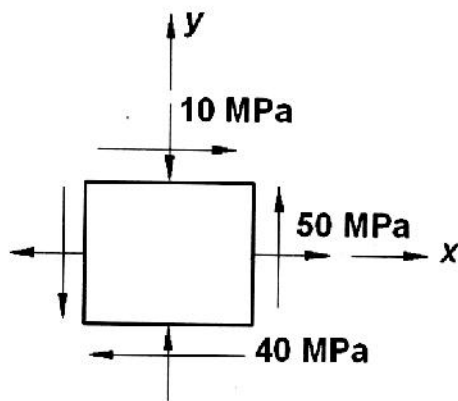

Fig. Q4a
- (a) Fig. Q4a shows a differential bi-axial stress element. Draw Mohr's circle for stresses of the element [should be drawn in graph paper and in scale]. Using Mohr's circle, (i) find the principal stresses and the corresponding principal planes, (ii) find the stress components on a plane, which is 45° counterclockwise from the x -plane. Show the principal stresses on a properly rotated element in body plane.